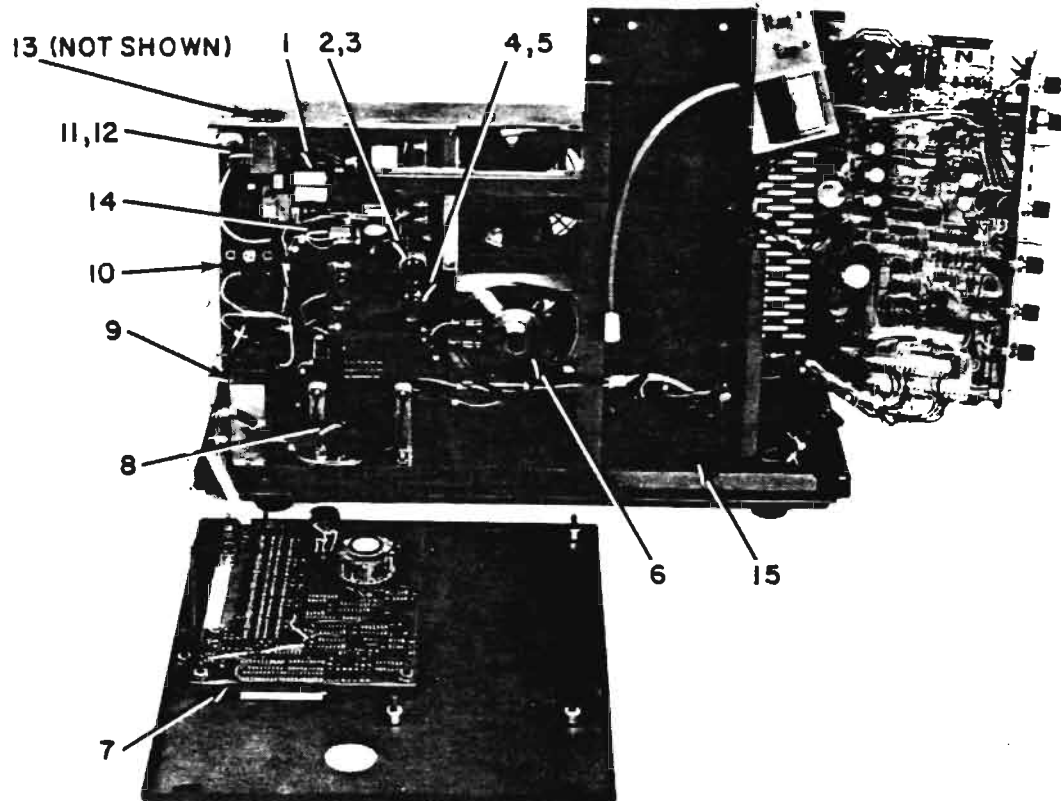

Fig. 8-6. Electrical Power Control
**ELECTRICAL POWER CONTROL (Fig. 8-6)**